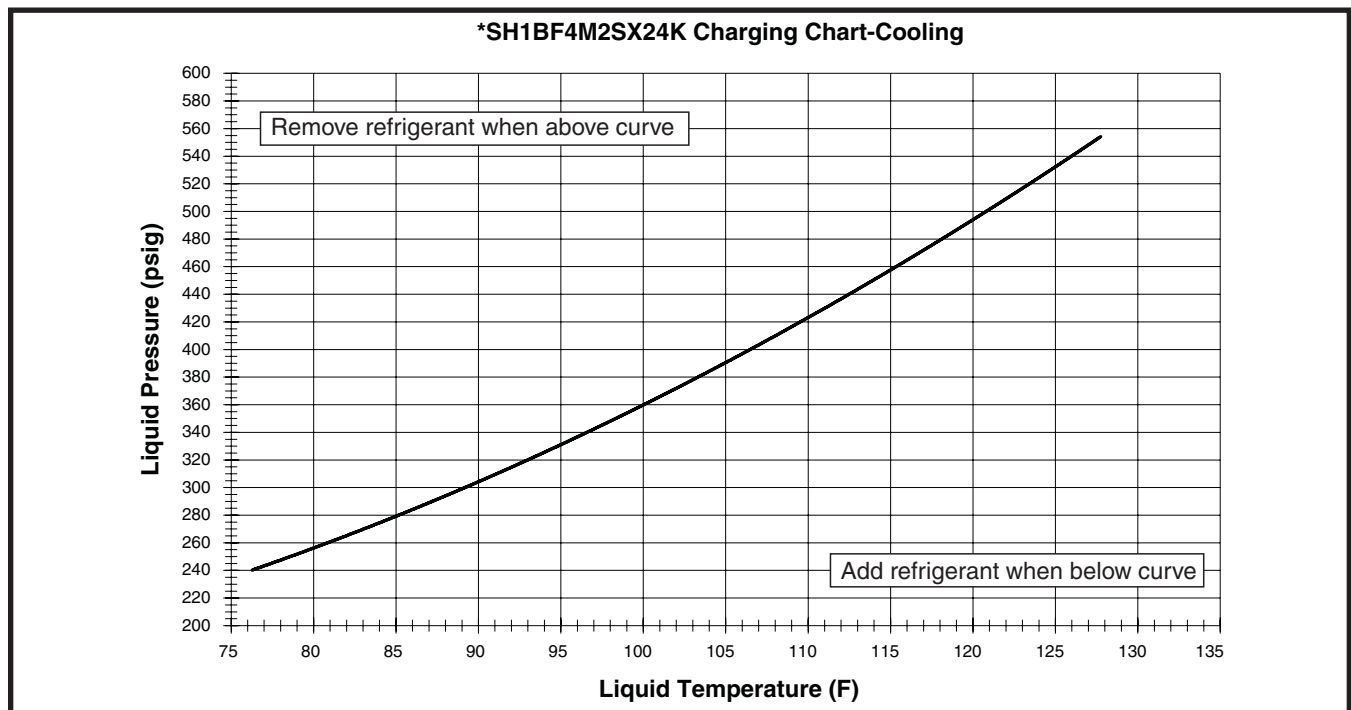
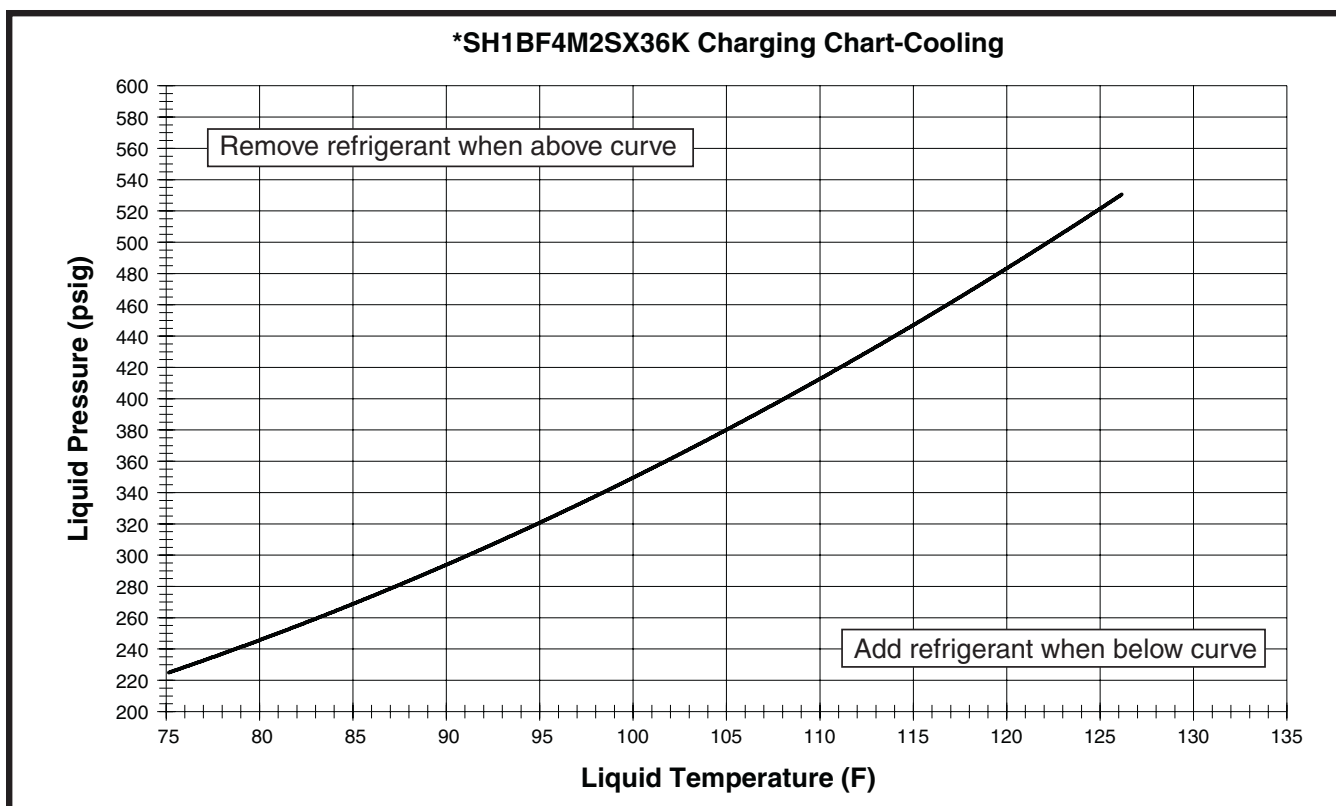
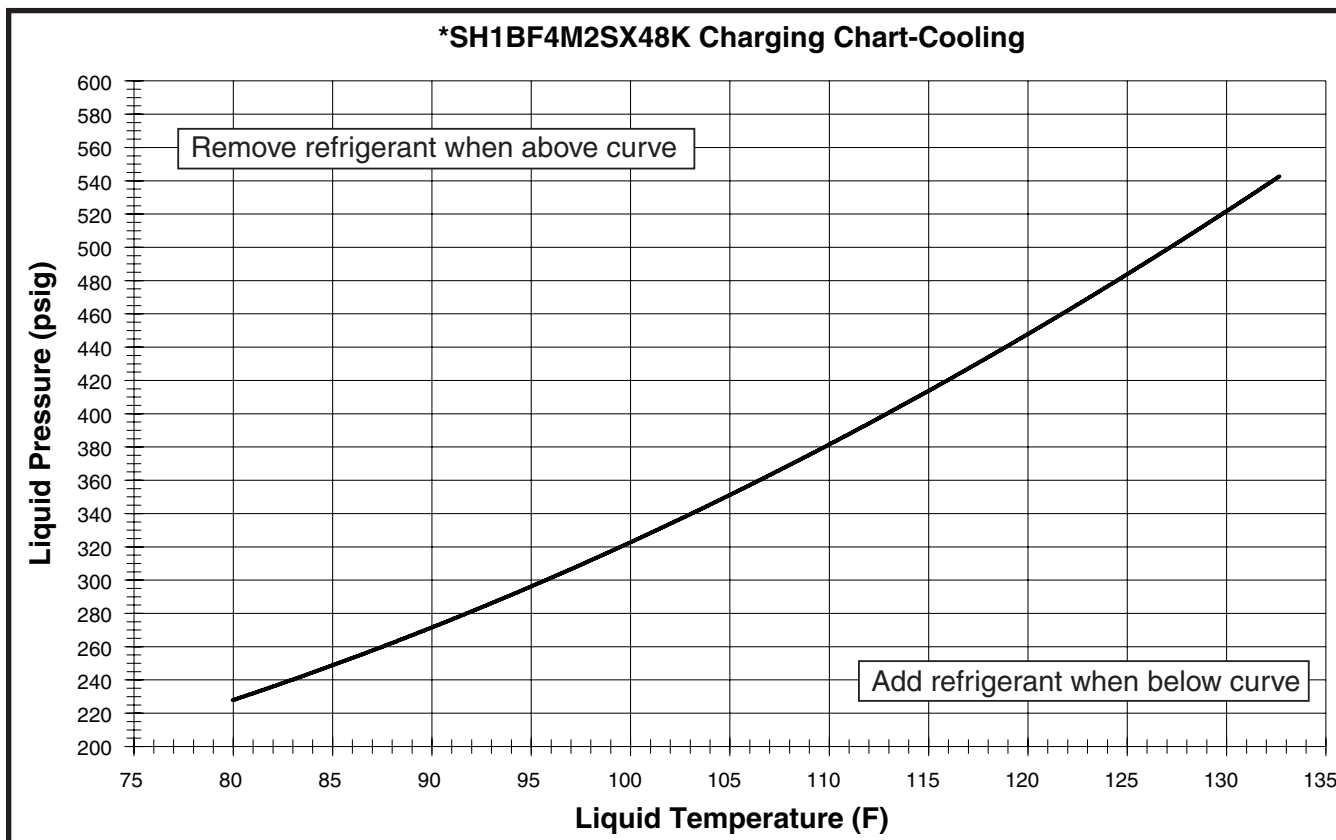
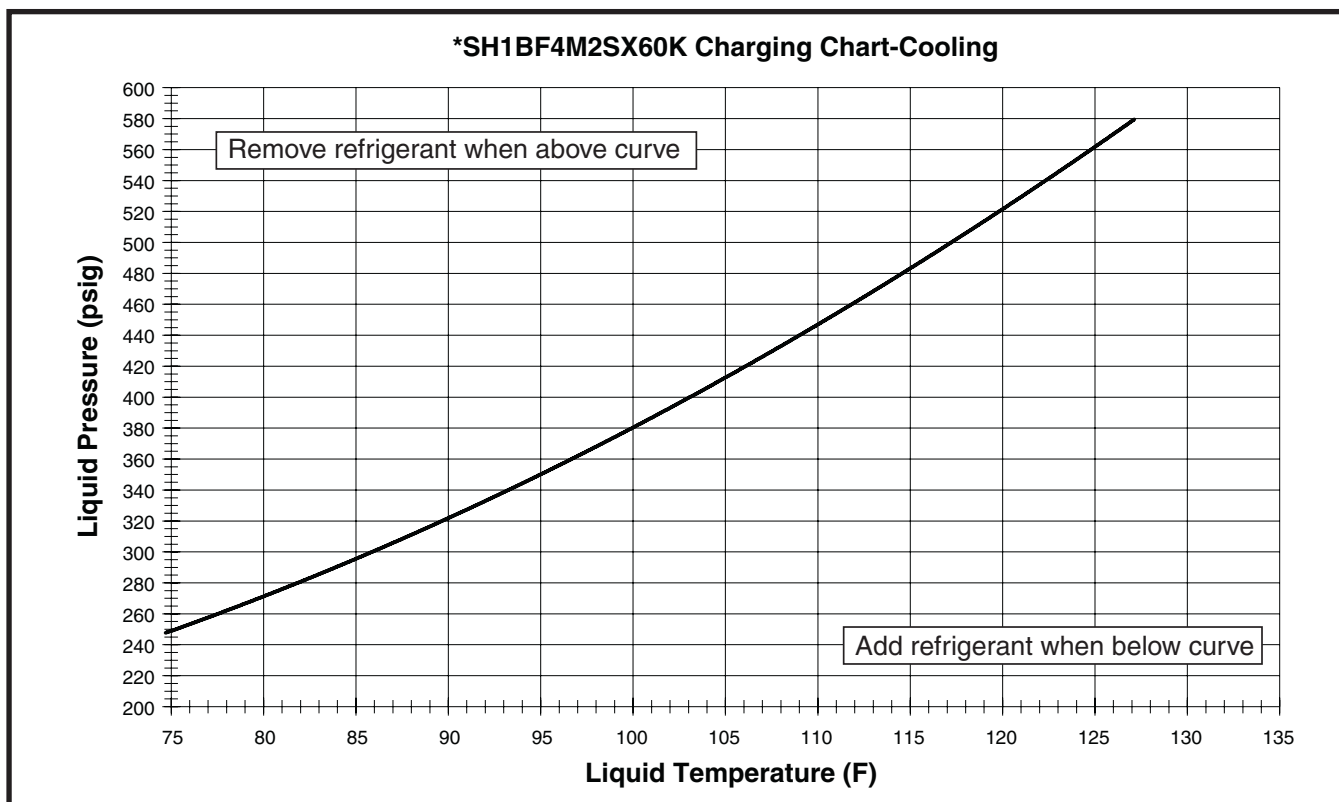

Figure 6. Charging Chart for 2 Ton Units
Figure 7. Charging Chart for 3 Ton Units
Figure 8. Charging Chart for 4 Ton Units
Figure 9. Charging Chart for 5 Ton Units
3. Determine the required liquid refrigerant pressure. See Figure 6, \(page 10\), Figure 7, \(page 11\), Figure 8, \(page 11\) & Figure 9, \(page 12\).
- Cooling mode charging charts are applicable only to matched assemblies of this equipment and listed airflow for the indoor coil. Outdoor units with non-AHRI listed indoor coils are not recommended and deviations from rated airflow or non-listed combinations may require modification to the expansion device and refrigerant charging procedures for proper and efficient system operation. Refer to Figure 6, \(page 10\), Figure 7, \(page 11\), Figure 8, \(page 11\) & Figure 9, \(page 12\) for correct system charging.
- As shown in Figure 6, Figure 7, Figure 8 & Figure 9 the ideal system sub-cooling can vary over the range of operation. Reference the charts to determine the ideal amount of sub-cooling for a given liquid pressure. Units charged to other values will not perform at the rated unit efficiency (EER) or rated Coefficient of Performance (COP) in heating mode.